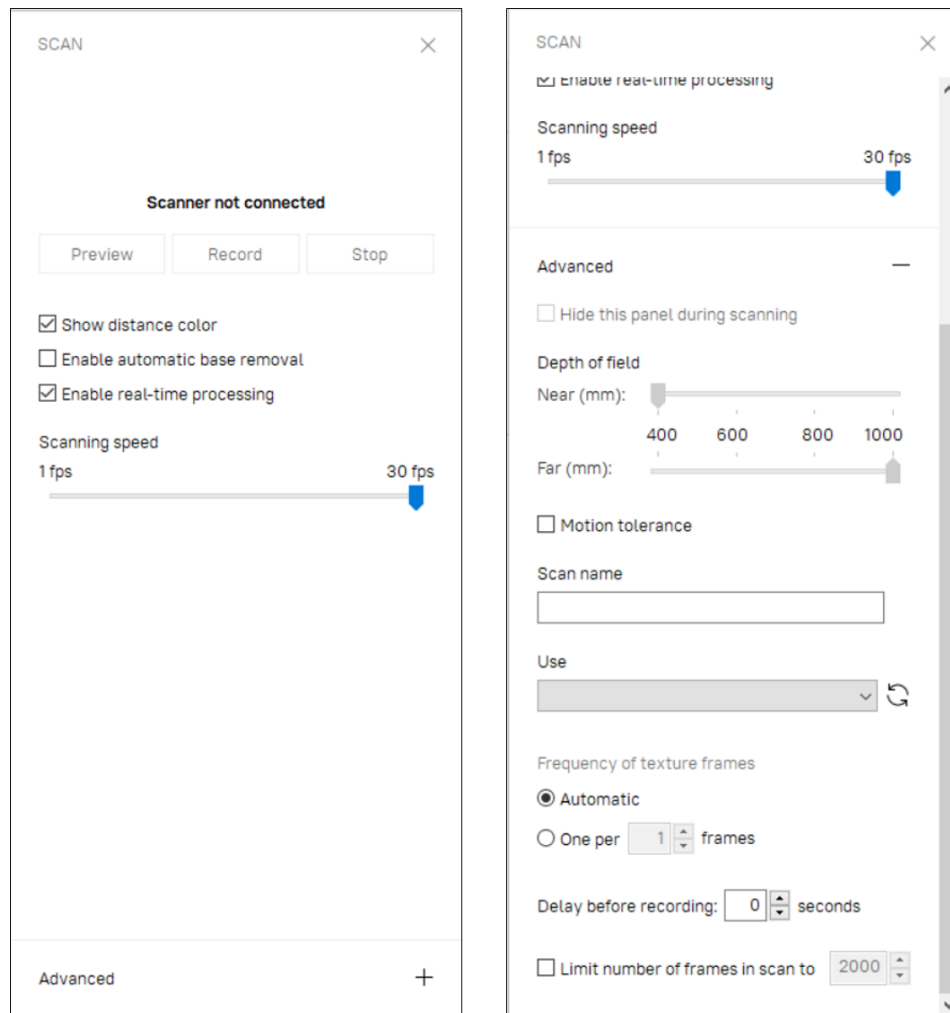

Figure 67: *Scan* panel: *Advanced* section hidden (on the left) and revealed (on the right).
1. Check the *One per ... frame* radio button (see Figure 67, right).